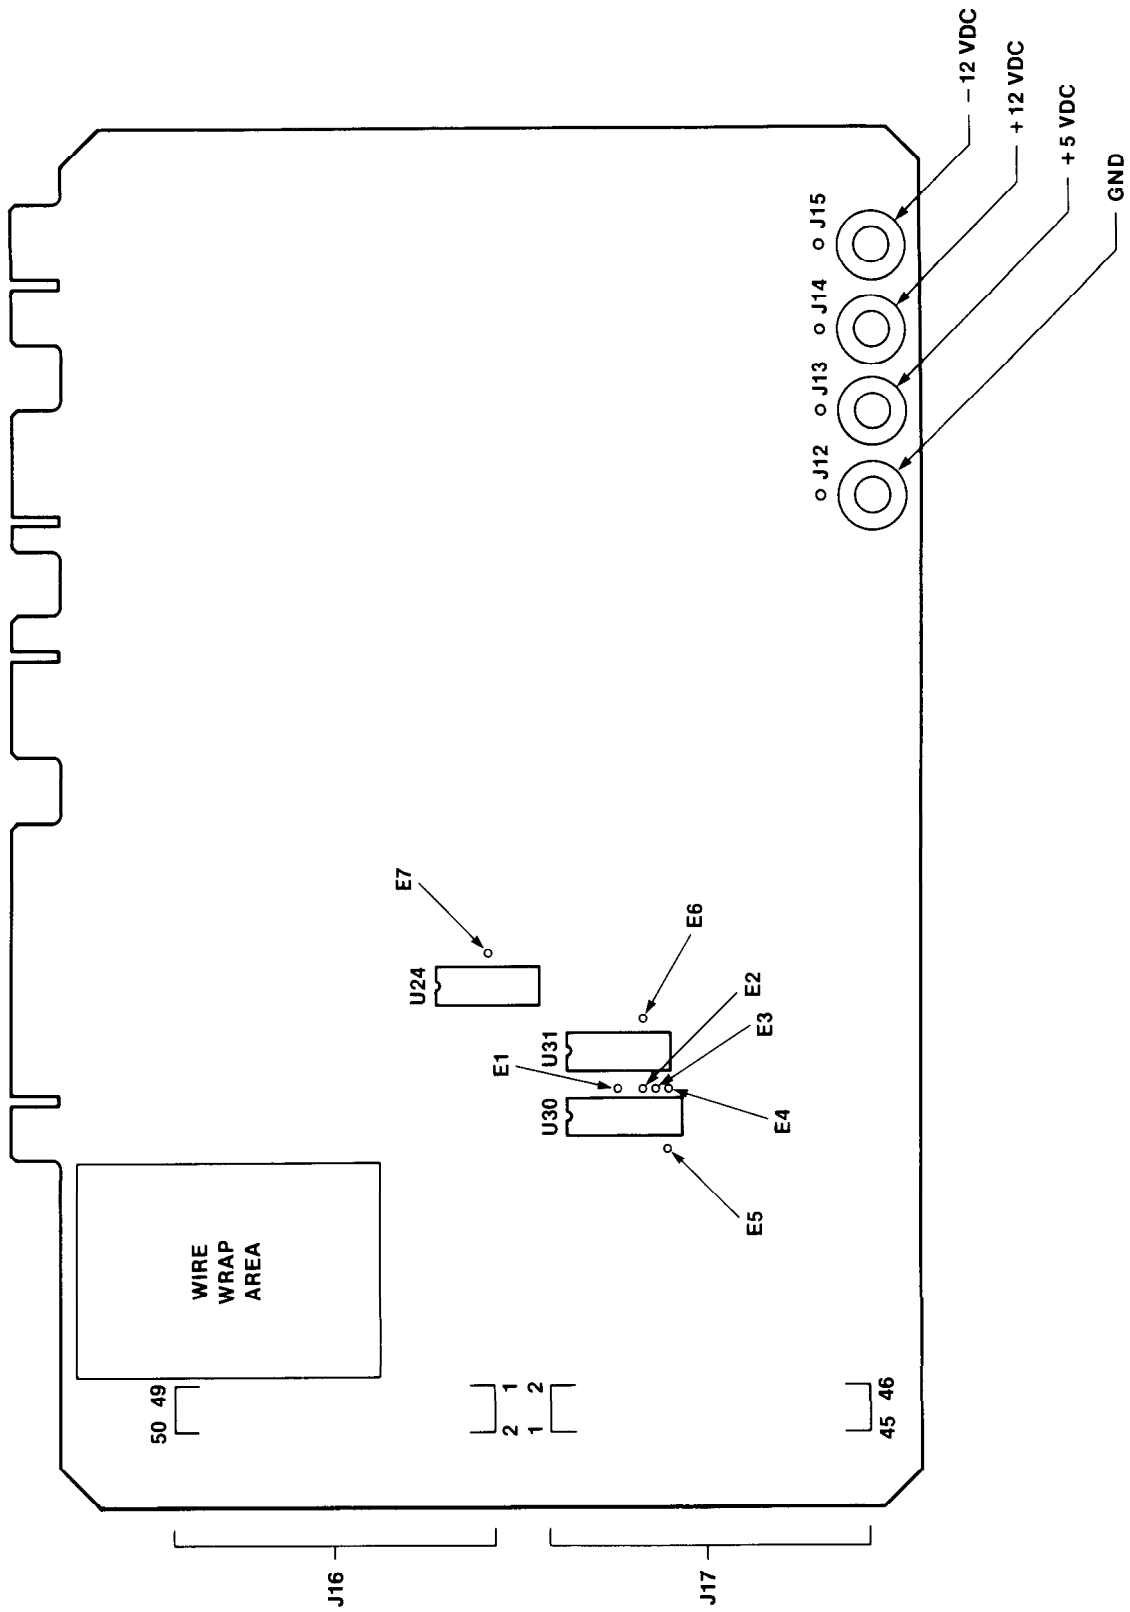
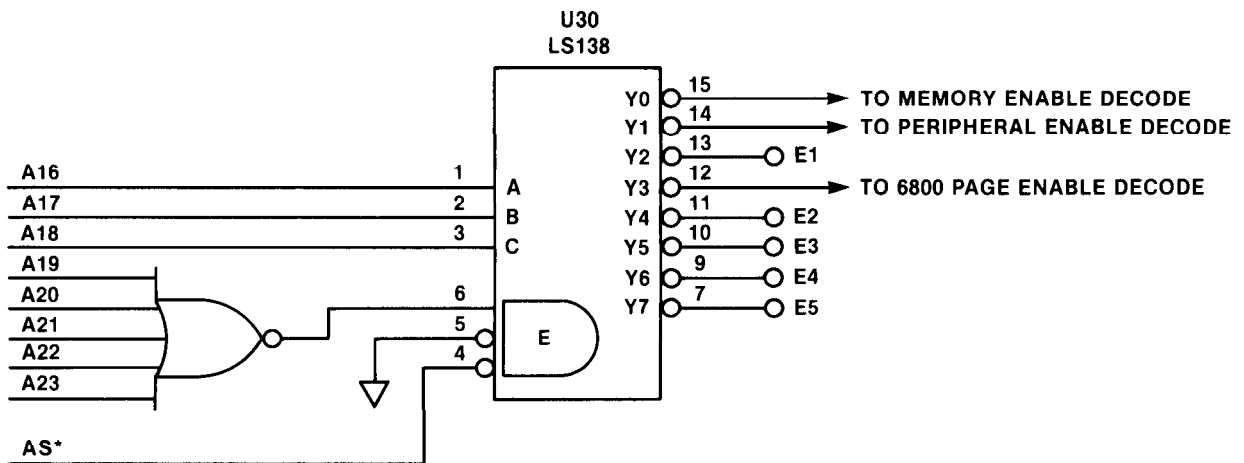
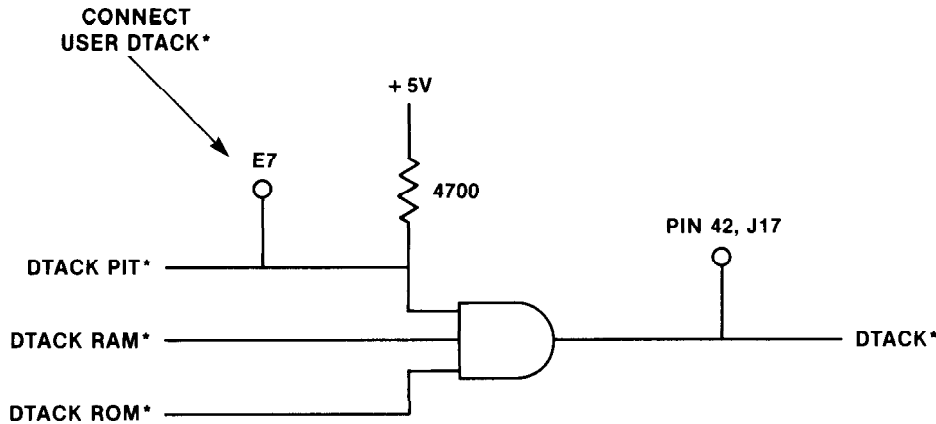
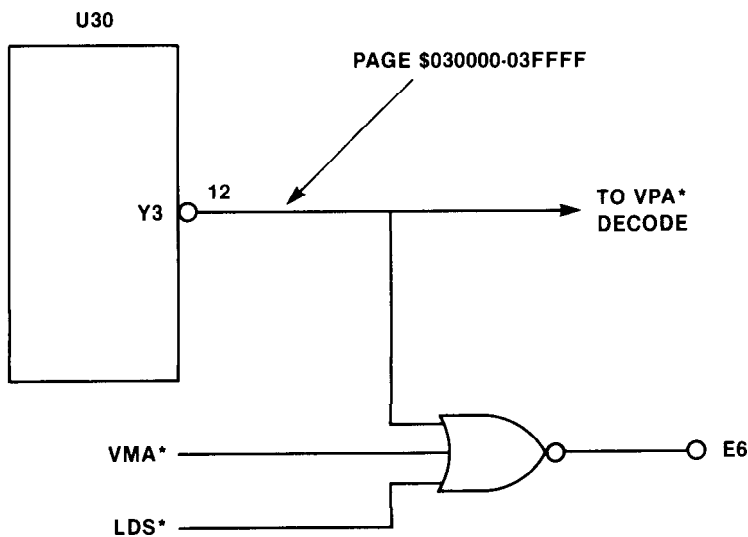

FIGURE 7-2. MEX68KECB Signal Connection Points For Wire-Wrap
FIGURE 7-5. Address Decode Logic For Memory Map Primary Segments
FIGURE 7-6. DTACK* Signal Generation
FIGURE 7-7. M6800 Page Address Signal Generation
The MC68000 Educational Computer Board provides a small wire-wrap area for those users desiring to do custom interface. The location of the wire-wrap area and the signal connection points are shown in Figure 7-2. The following paragraphs provide a detailed discussion of various aspects of doing custom interface to the ECB.
A connection area designated J17 gives access to the MC68000 bus signals and system timing. Figure 7-2 shows the location of J17 and gives pin locations. Table 7-2 lists J17 pin number vs. signal designation and also shows attributes of these signal lines.
- a. Connection points E1 through E5 (see Figure 7-2 for location) give decode signals for various segments of the MC68000 upper memory map. Figure 7-5 shows the address decode logic and Table 7-3 lists the decoded segments.
- c. Access to the MC68000 signal lines is provided via J17. Special care must be taken with DTACK* (Data Transfer Acknowledge). The processor DTACK* is generated by ANDing DTACK PIT*, DTACK RAM*, and DTACK ROM*, as shown in Figure 7-6. The processor DTACK* goes low whenever any of these go low. The user cannot add another signal to the processor DTACK* because this signal is not an open-collector output.
A USER DTACK* is connected to the system via connection point E7 as shown in Figure 7-6. The PIT DTACK* is turned off when not required, and the USER DTACK* can be bussed to this point. A 4700 ohm resistor holds PIT DTACK* high when the driver is turned off. The USER DTACK* must be an open-collector or three-state driver. (E7's location is between packages U24 and U25 as shown in Figure 7-2.)
7.3.6.1 M6800 Page Address Decode. A 64K-byte segment of the system memory map is reserved for an M6800 type interface. Connection point E6 is enabled high whenever this page (\$030000-\$03FFFF) is selected. Connection point E6 can be located on Figure 7-2, and Figure 7-7 shows the logic generating signal E6.